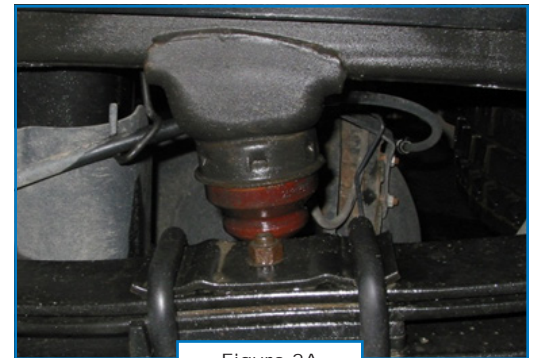

Figure 2A
- 7 Remove the two jounce bumpers (**Figure 2A**) by prying them out of the retaining cup. A pry bar or large screwdriver is typically required.